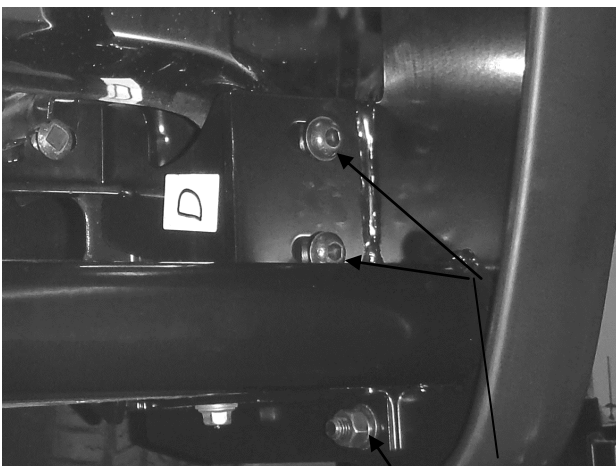

Fig 9
8. With assistance, position the Grille Guard up to the Frame Mounting Brackets and the Lower Mounting Brackets. Use the included (4) M12 Button Head Bolts, (8) M12 Flat Washers, (4) M12 Lock Washers and (4) M12 Hex Nuts to loosely attach the Grille Guard to the Frame Mounting Brackets, (Figure 9).
9. Align the holes and loosely attach the Grille Guard to the Bottom Mounting Brackets using (2) M12 Button Head Bolts, (4) M12 Flat Washers, (2) M12 Lock Washers and (2) M12 Hex Nuts, (Figure 9).
10. With assistance, align and adjust the Grille Guard and tighten all hardware, including the tow hook hardware. On vehicles without factory tow hooks: The plastic fill panel in the front bumper removed in Step 3 may be discarded or can be reinstalled but will require trimming to clear the Frame Mounting Brackets. Once modified, use the factory hardware to re-install (on 2013+ vehicles only (2) of the (4) bolts may be re-used).